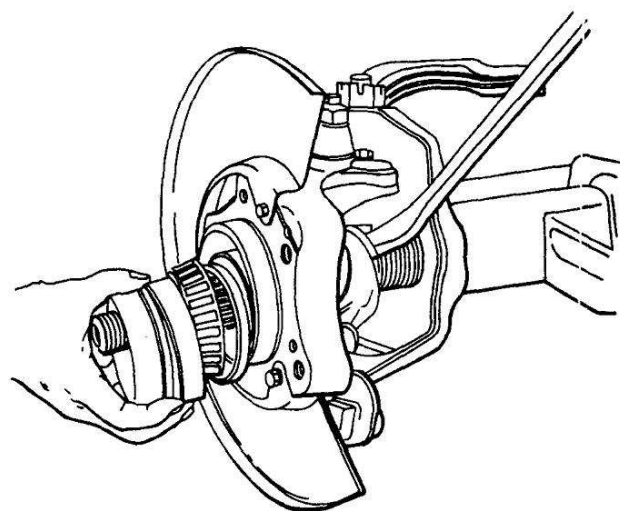

Figure 2-61.2. Removing Bearing from Knuckle
(9) Place a pry bar behind the inner axle shaft yoke, and push the bearings out of the knuckle (figure 2-61.2).
(10) Remove the O-ring from the knuckle and discard it.